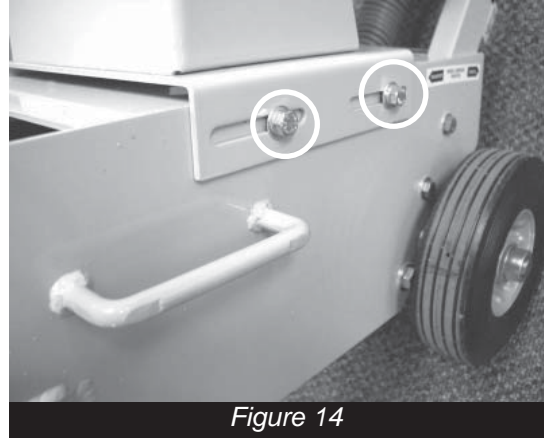

Figure 14
- Loosen engine/motor mounting bolts (Figure 14) on both sides of the TG-10 and slide engine forward to allow belts to slide off.